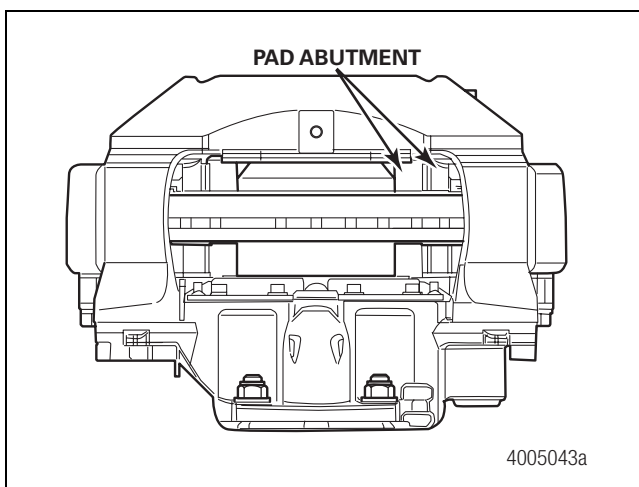

Figure 4.7
7. Inspect the carrier for signs of damage or wear. Pay particular attention to the pad abutments. Figure 4.7.